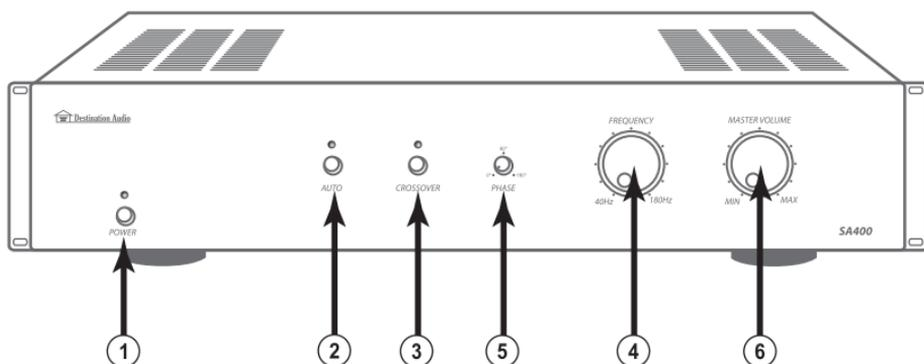

Figure 1 Front Panel View
The following are descriptions of the front panel functions (refer to figure 1).
- 1. Power Button:** This button allows the amplifier to be turned on and off manually or when kept in the “on” position and the Auto Button (see figure 1, #2) is kept in the “on” position; the amp will automatically turn on when it detects an incoming audio signal. The power indicator light above the power button will glow when the amplifier is on.